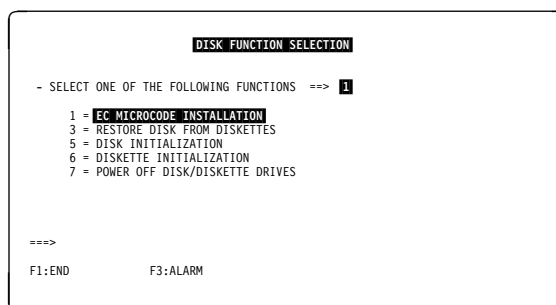

Figure 11-25. Disk Function Selection Screen (IML from Diskette)
6. At the IML end, you should be in the DIF function (automatic with diskette IML, see page 11-4 and Figure 11-25).